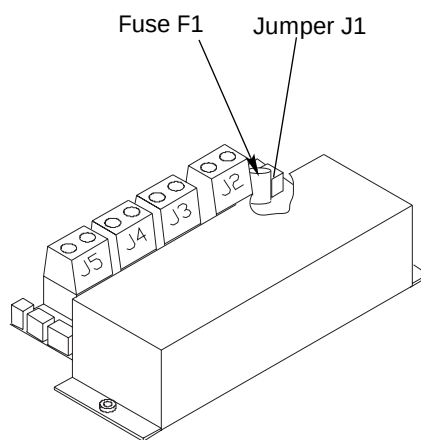

Figure 30: BYP option board fuse F1
10. Remove fuse F1 on the bypass option board and install included jumper at location J1. See Figure 30 on page 23.